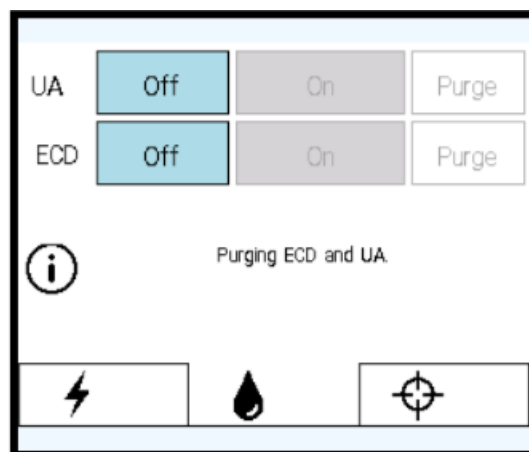
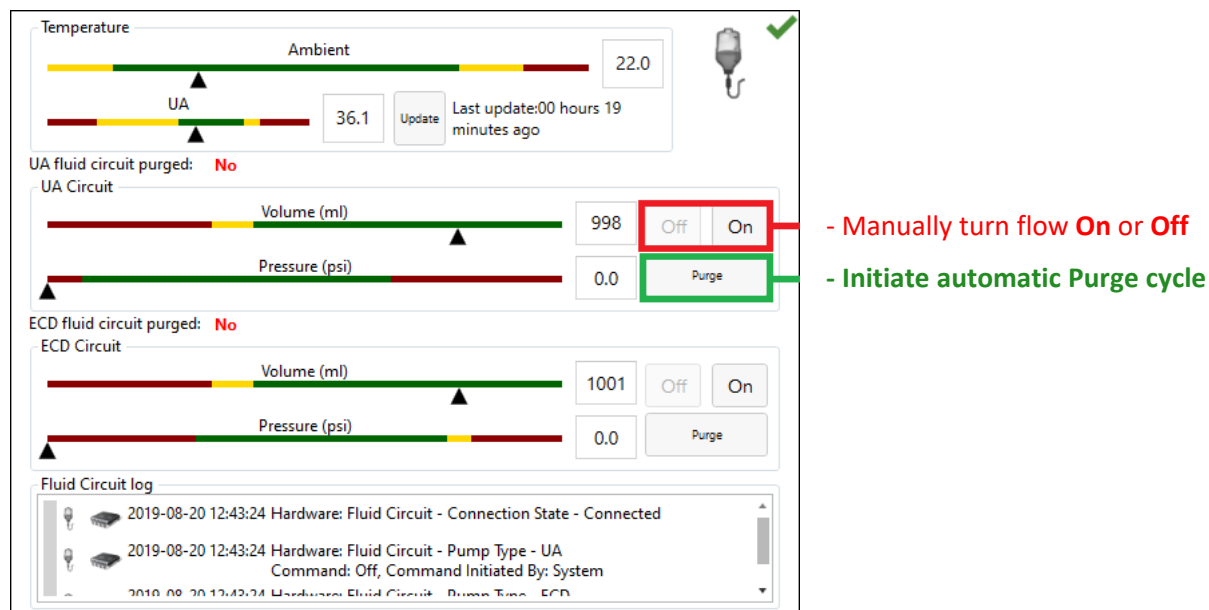

Figure 10: PSIB Display - Fluid Circuit tab
Figure 11: Fluid Circuit information box in TDC Setup workspace
- On the PSIB display, choose the **Fluid Circuit** tab  (Figure 10) and **Purge** the UA and ECD fluid circuits. You can also do this from the TDC by pressing **PURGE** beside the fluid circuit (FC) quadrant (Figure 11).
- If the purging cycle ends before completing the steps in this process, return to the PSIB display (or TDC window) and manually turn the flow on by clicking **On**. The fluid pumps will remain on until you click **Off** (*Figure 11*).